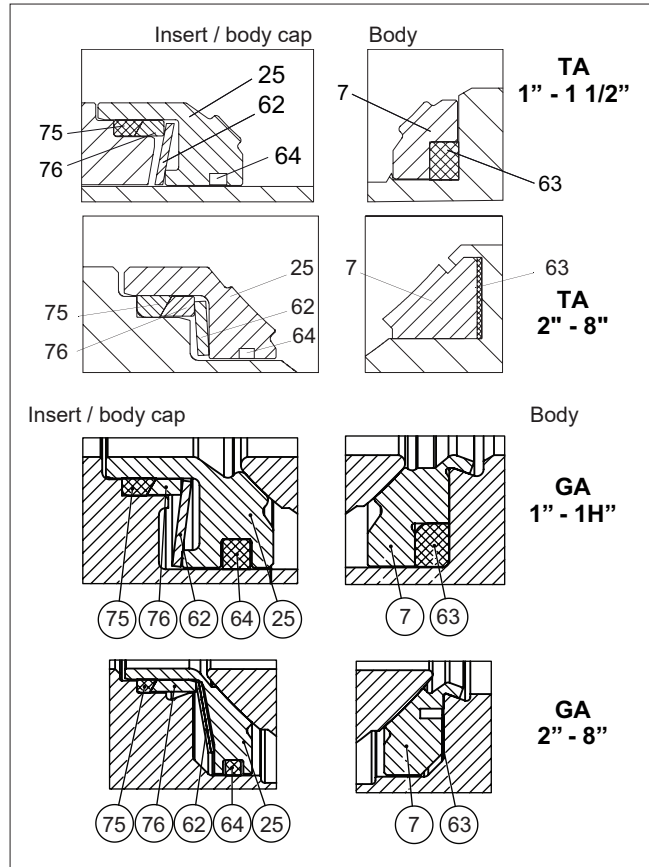

Fig. 24 G seats
- Place the back seal (63) into the body counterbore. Then place the seat (7) into the body counterbore, see Figure 24.
- Place the back seal (75), back-up ring (76), spring (62) and the seat (25) with back seal (64) into body cap, see Figure 24.
- Place the back seal (75), back-up ring (76), spring (62) and the seat (25) with back seal (64) into insert, see Figure 24.